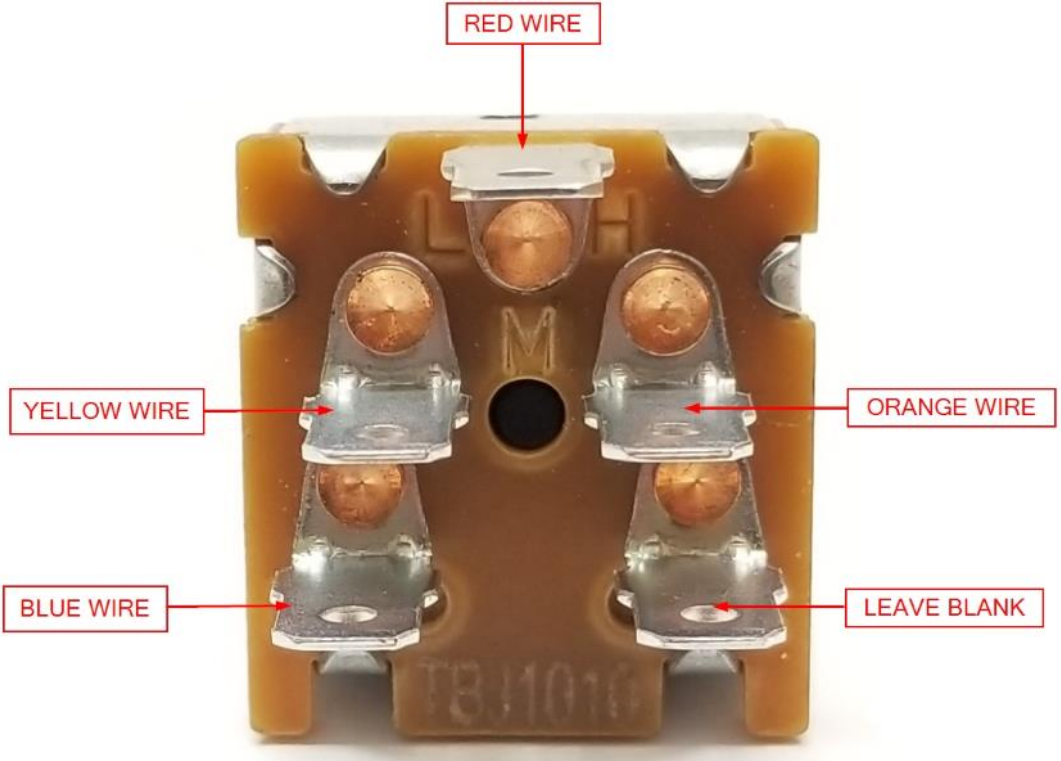

Figure 21
- a. Attach the White 4-Pin Connector to the 4-Pin Connector on the Heater Unit. Connect the 1/4" Female Spade terminals to the 3-Speed Fan Switch as shown Figure 21. Route the switch to the 7/16" hole drilled earlier, push the switch through the hole, place the red bezel over the switch and the black bezel over the red one. Secure the brackets together using the 7/16" Low Profile Nut and a 9/16" Socket.